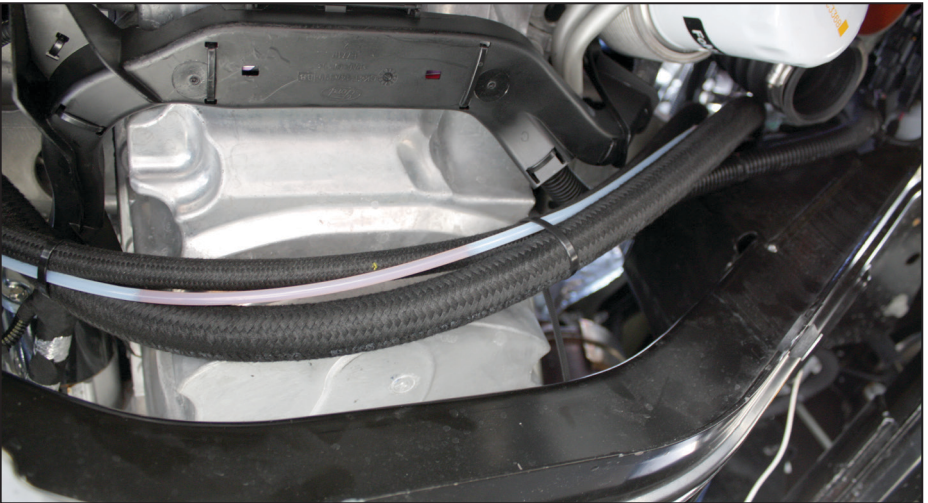

Figure 34 — Route hoses under the oil pan
- Route the 3/8 in and 3/4 in hoses, together with the 1/4 in PTFE tube under the engine oil pan and over the front subframe crossmember, towards the driver side of the vehicle (Figure 34).